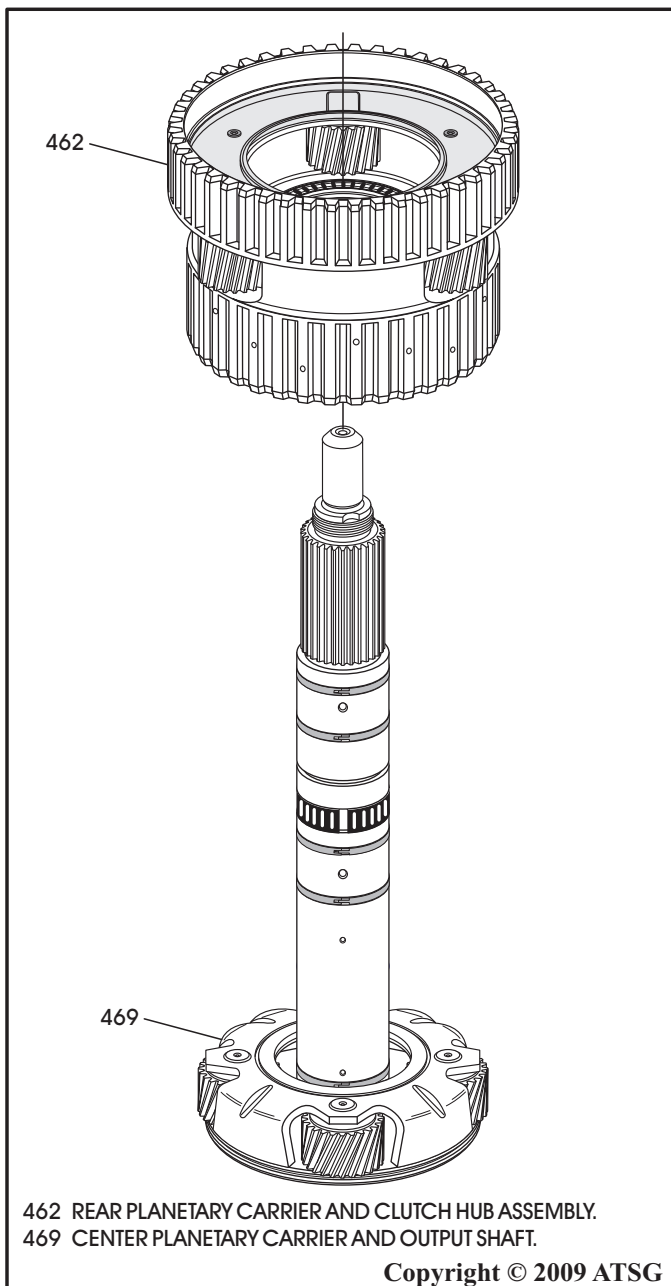

Figure 146
50. Install the rear carrier and clutch hub assembly as shown in Figure 146, by rotating to engage the center ring gear to the planetary pinions.